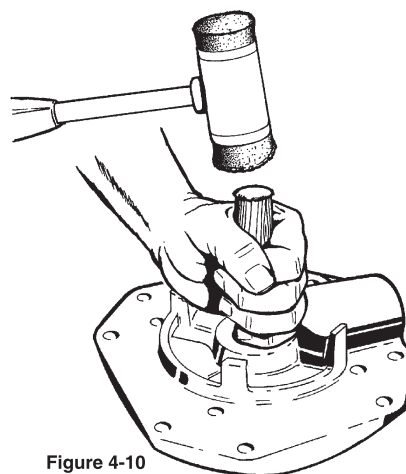

Figure 4-10
21. Remove the Seal Stationary Seat (#125). Refer to Figure 4-10.
21. Remove the stationary seat (#125). Refer to Figure 4-10.
23. Remove the four (4) long hex screws that hold the End Bell (#101) to the motor.